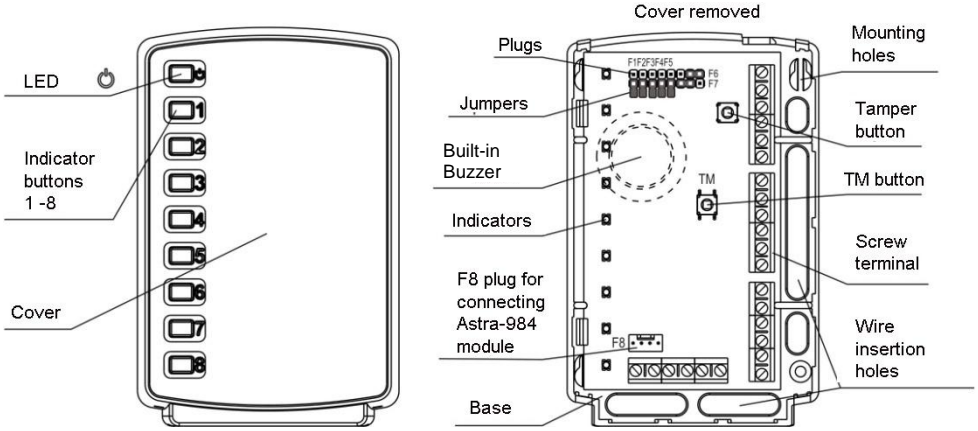

Figure 1
5.1 The unit's structure is a block consisting of a base and a removable cover. Inside the block is a circuit board with radio elements. (Figure 1).